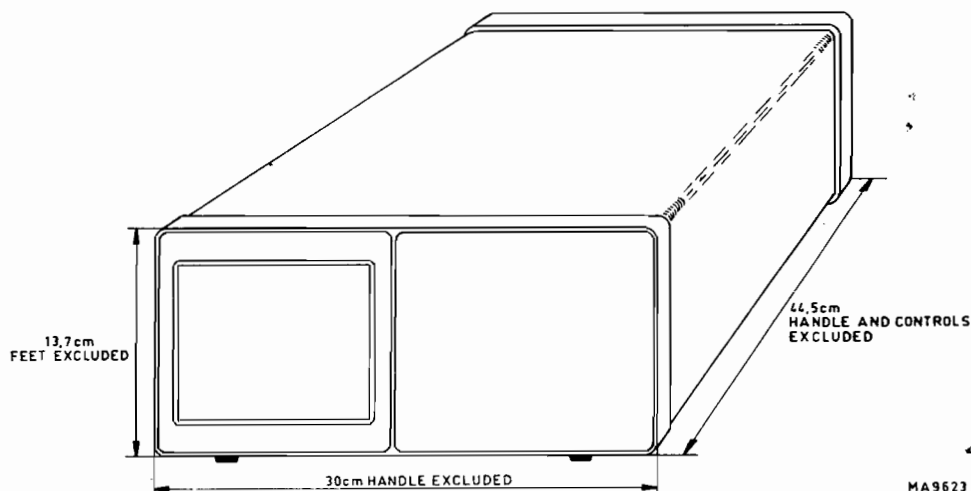

Fig. 1.2. Dimensions
- Overall dimensions (see fig. 1.2.).